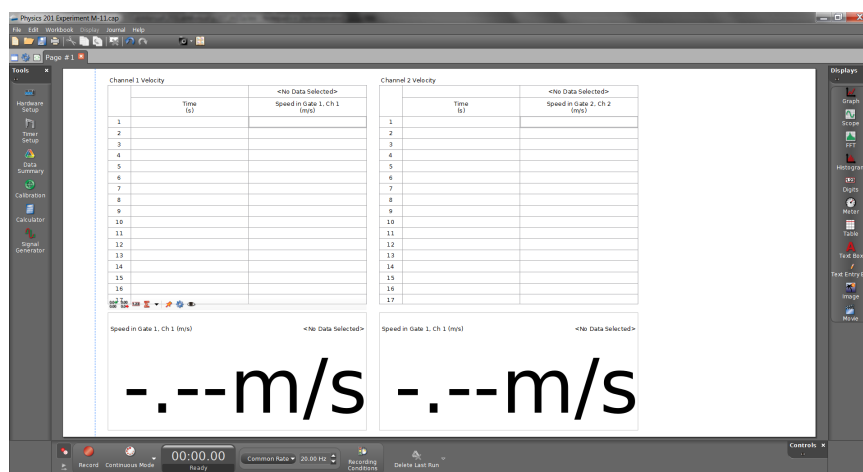

Figure 1: The Pasco Capstone display for M211.
4. Start the PASCO software by double-clicking "Experiment M211" in the Lab Software/201 folder on the desktop. The monitor should look as in Figure 1 below.